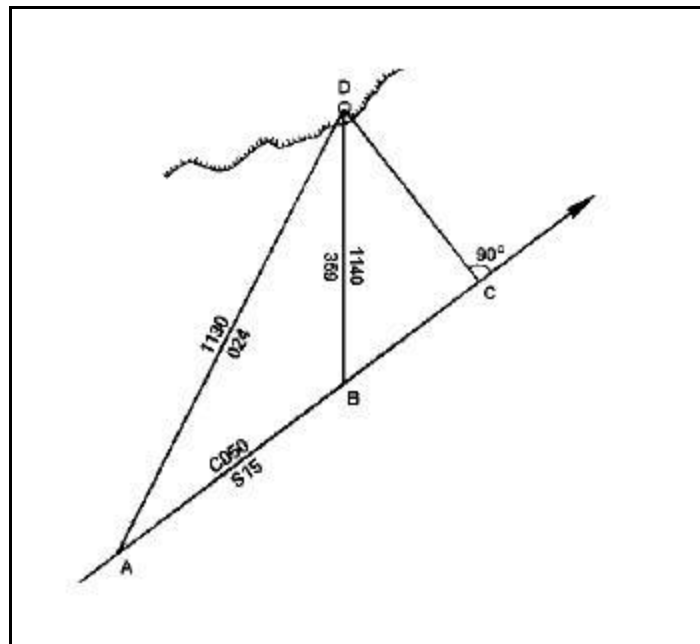

Figure 6-36. A Running Fix
6-184. A running fix can be obtained by using the mathematical relationships involved as shown in Figure 6-36. A ship is steaming past lighthouse D. At point A, a bearing of D is observed and expressed as degrees right or left of the course (a relative bearing if the ship is on course). At a later time at point B, a second bearing is taken of D and expressed the same as before. At point C, the lighthouse is broad on the beam. The angles at A, B, and C are known, as are the distances between these points. Trigonometry can be used to find the distance from D at any bearing. Distance and bearing provide fix.
6-186. Applying the data from Figure 6-37, locate the difference between the course and the first bearing (angle B, A, and D in Figure 6-36) along the top of the table. Also locate the difference between the course and the second bearing (angle C, B, and D) at the left of the table. For each pair of angles listed, two numbers are given. To find the distance from the lighthouse at the time of the second bearing (B and D), multiply the distance run between A and B by the first number from the table. To find the distance off when you will be abeam (C and D), multiply the distance run between A and B by the second number in the table. If the distance between A and B is 1 mile, then the tabulated values are the distances sought. The tables are computed for even degrees. If a degree difference is an odd number, then you interpolate.
**Example:** Using the problem shown in Figure 6-36, the course is  $050^\circ$ , the speed is 15 knots, the first bearing of the lighthouse at 1130 was  $024^\circ$ , and the second bearing of the lighthouse at 1140 was  $359^\circ$ .